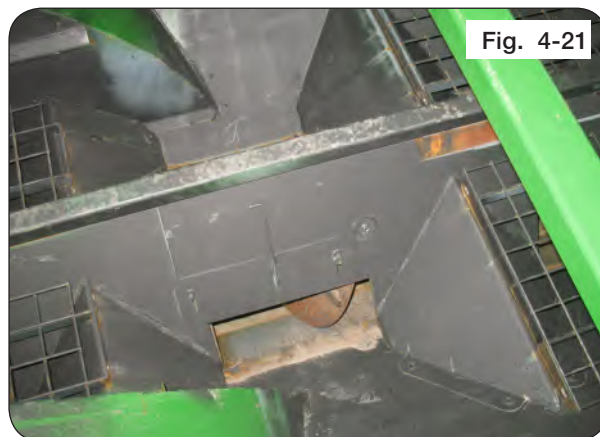

Fig. 4-21
2. Remove the bolts in both middle grates inside the cart. Remove the grates. (Figure 4-21)